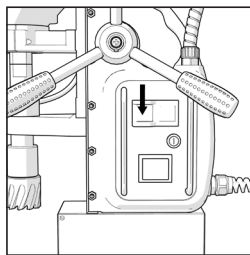
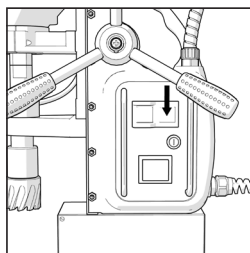

FIG. 4b
FIG. 4c
- Operate the green push switch **(Fig. 4b)** on the machine's switch panel to switch on the motor and the Red push switch to switch off the motor. **(Fig. 4c)**